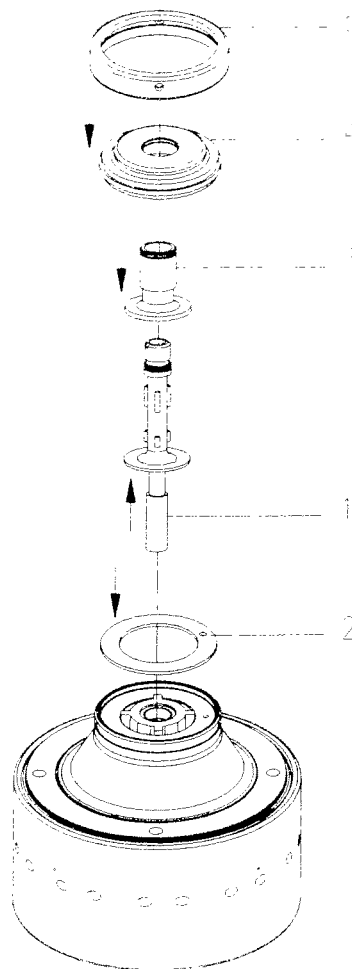

Figure 6.15
16) Apply the **gasket** on the bowl hood (Fig. 6.15 - part 2) checking that the pin on the bowl hood correctly enter in the suitable hole on the gasket.17) After carefully cleaning the grooves, insert the **OR gaskets** on feeding pipe and on **centripetal pump** (see Fig. 6.16).18) Insert the **feeding pipe** of product with the **centripetal pump** (Fig. 6.15 - parts 1 and 3).19) Apply the **finned cover** (Fig. 6.15 - part 4) and take care that the "0" marks of the cover and the bowl hood are aligned.20) By the spanner (09.210.0), screw (left-handed thread) the **small lock ring** (Fig. 6.15 - part 5).
Proceed according to the following procedure (see Fig. 6.15):